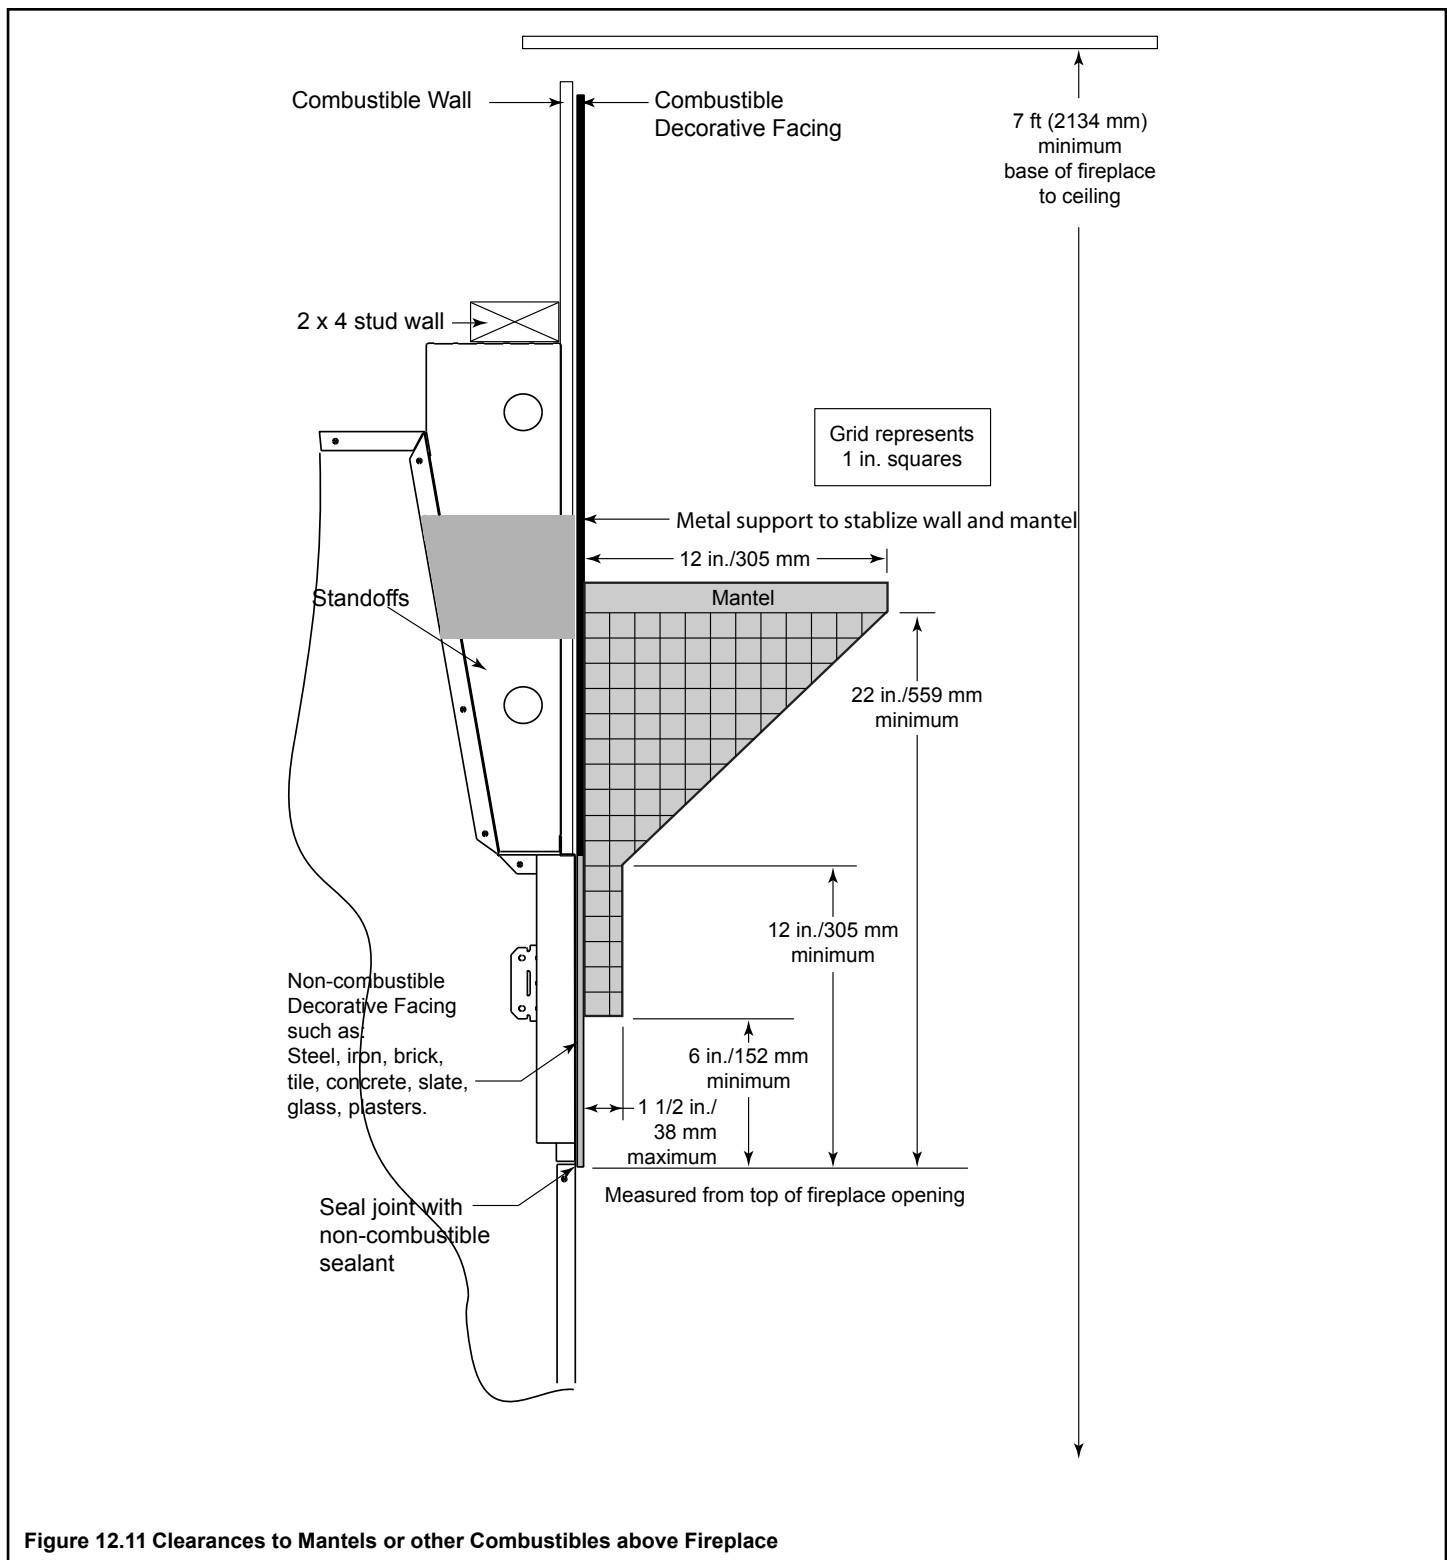

Figure 12.11 Clearances to Mantels or other Combustibles above Fireplace
- Refer to the shaded areas of Figure 12.11 for the location and dimensions of a combustible mantel.